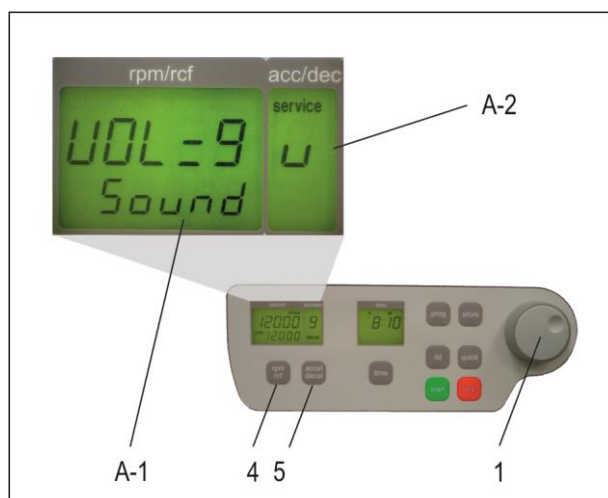

Figure 5
Proceed as illustrated, under point 1.8.1, to enter this program mode, press the key "accel/decel" (5). In the display, "accel/decel" (A-2), flashes the word, "service". Select the letter, "U" with the adjustable knob (1). As a result, appearing in the display, "rpm/rcf" (A-1), are the words, "Vol=0-9/Sound". By pressing the key, "rpm/rcf" (4), the desired volume can be adjusted between 0 (low) and 9 (loud), with the adjustable knob (1), (see Figure 5).